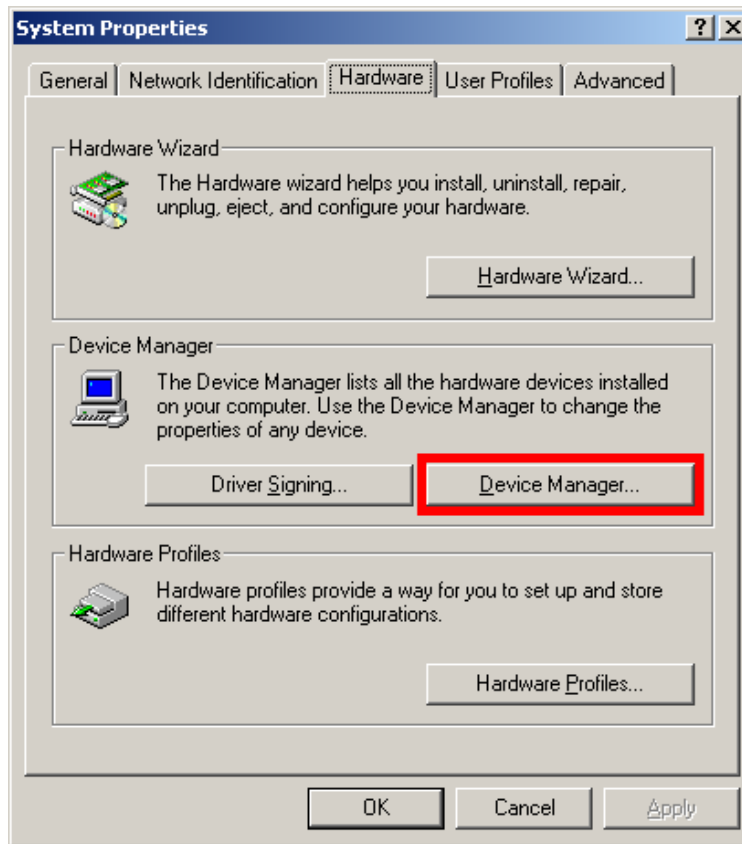

Figure 5-37: Device Manager Tab
Step 3: Click the **Device Manager** tab (Figure 5-37).